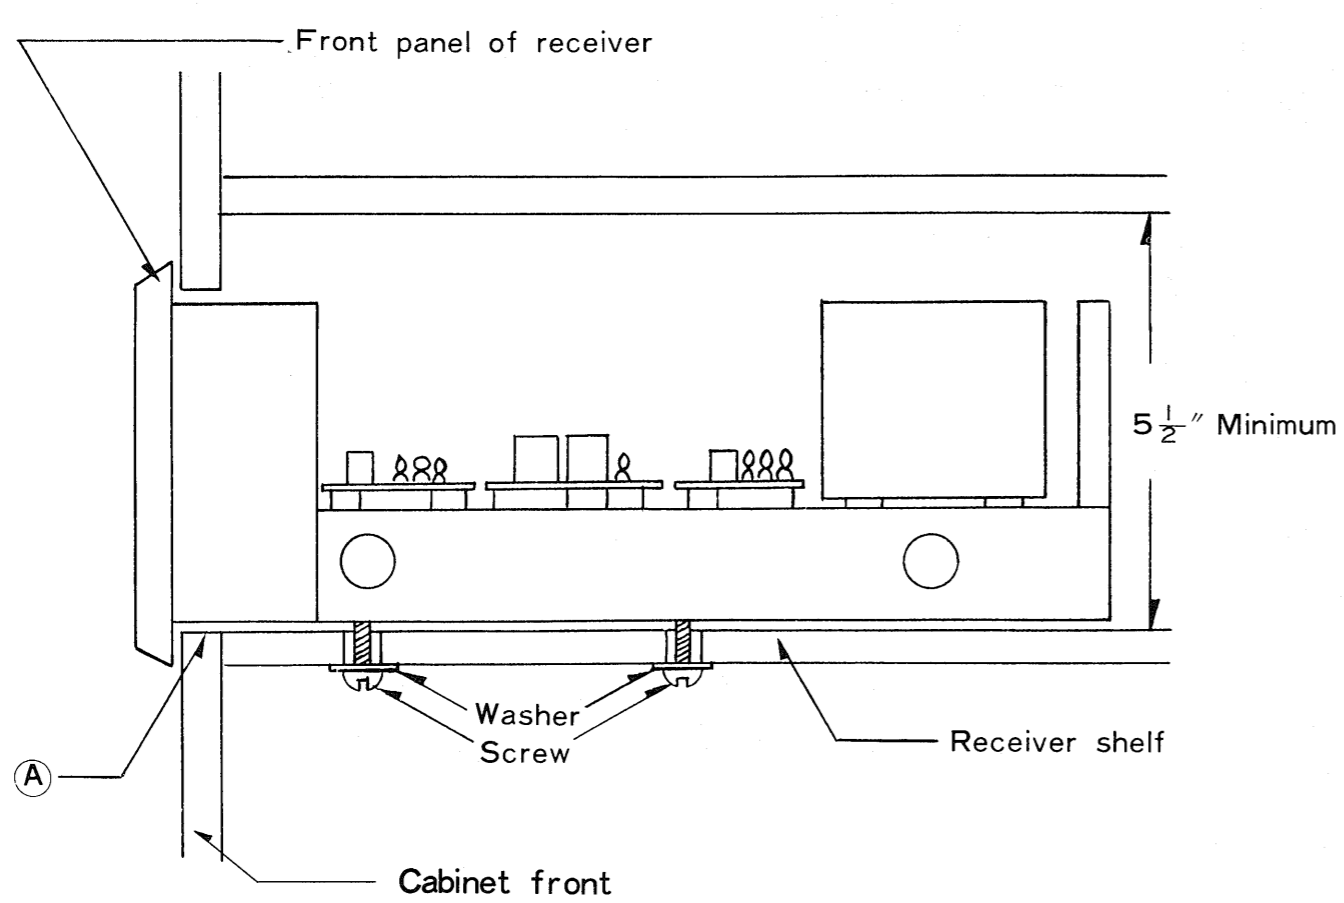

Fig. 3.
3. The top of the receiver shelf must not be higher than the cut out portion of the cabinet front. (See A in Fig. 3.)
7. If there is a shelf above the receiver, leave a space of at least 5 1/2" above the receiver shelf for air circulation (See Fig. 3.)